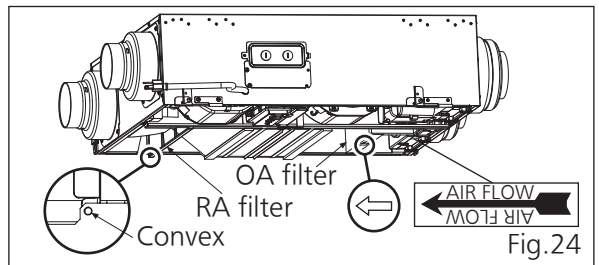

Fig.24
The method of remove and install OA filter please refer to P.17~P.18 (Fig.20~22) and P.18 (Fig.24~25).
4. Replace the OA and RA filters. Make sure the RA filter adapts to the convex and the direction of the arrow on the OA filter is in the same direction as the air flow displayed on the nearby label. (Fig.24)